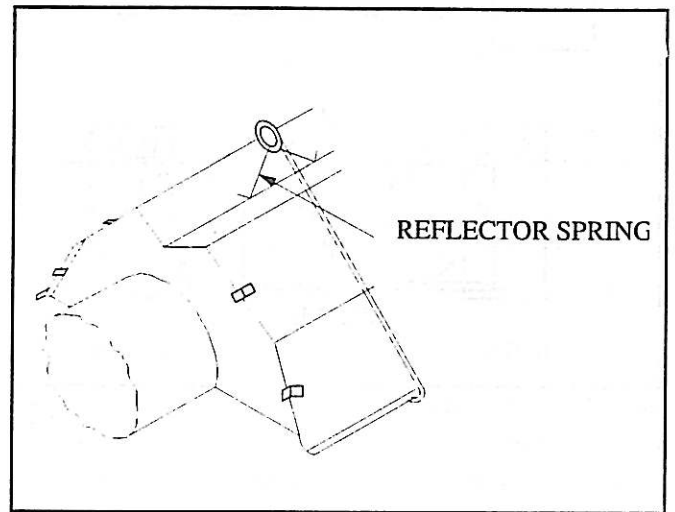

Figure 2-11
3. Install reflector end caps at exposed ends of the reflector runs with clips (Figure 2-11).